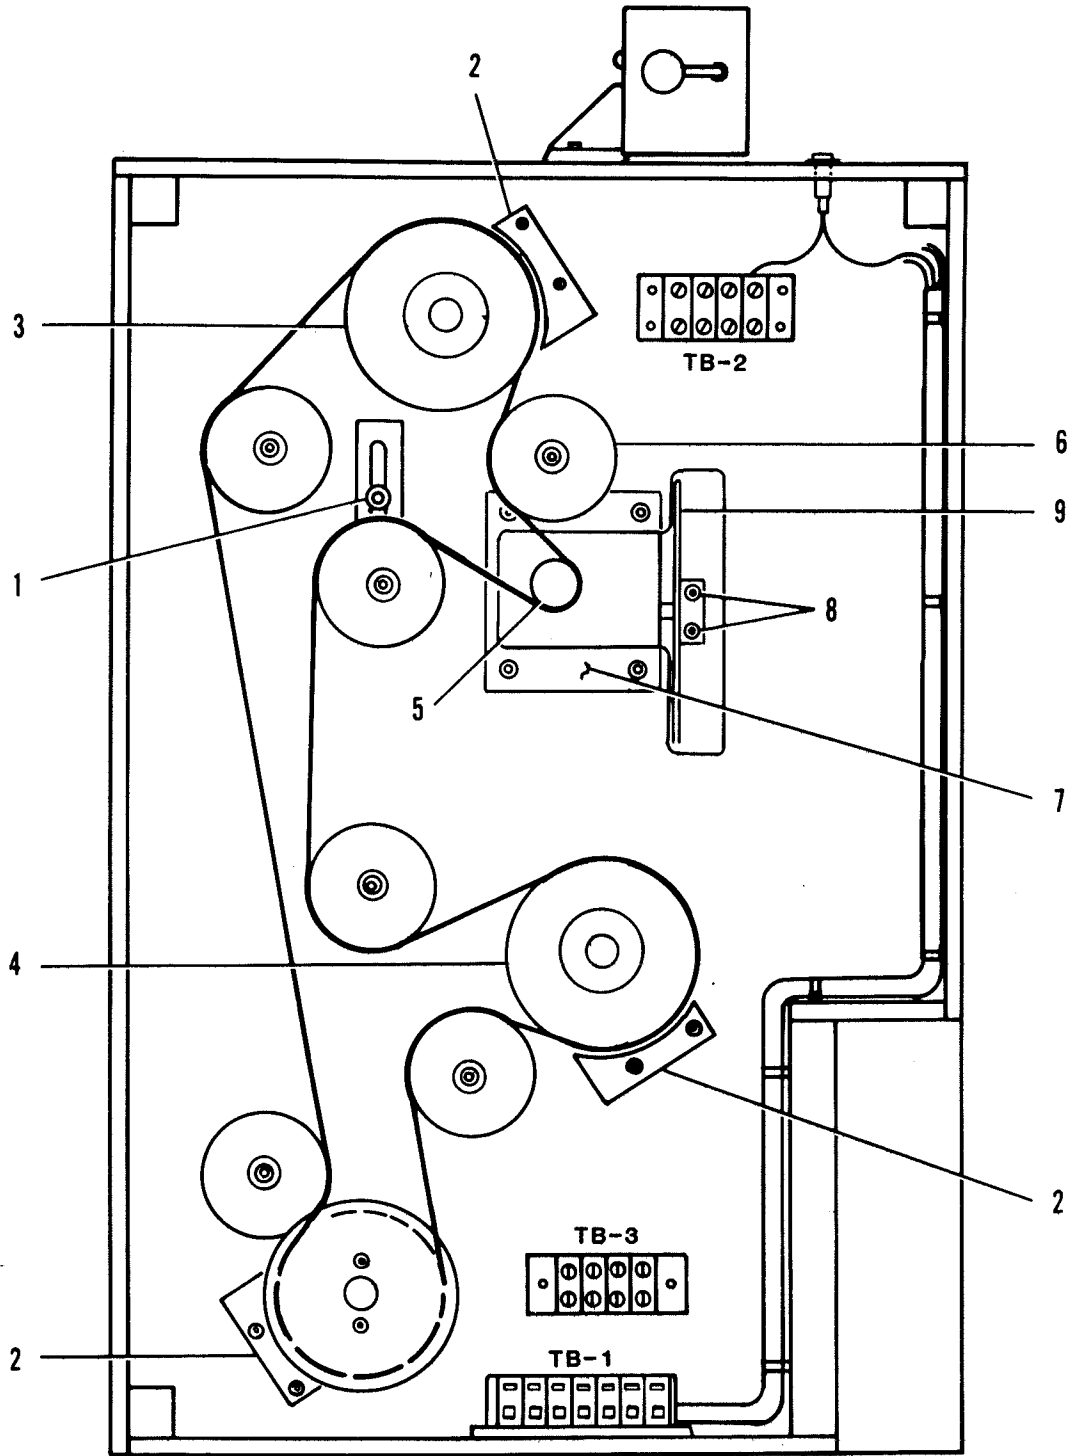

FIGURE 4-2. INNER TIMING BELT
1. Loosen outer timing belt idler pulley locking screw (1) and relieve tension on outer timing belt (2).
2. Remove bearing (3) by removing bearing retainer nut and washers.
3. Remove outer bearing retainer (4) by removing two allen head screws that secure outer bearing retainer to main frame.
4. Remove outer timing belt (2) from its associated pulleys and drive gears.
- 4-8. Inner Timing Belt. To remove the inner timing belt, refer to Figure 4-2 and proceed as follows:
2. Loosen inner timing belt idler pulley locking screw (1).
3. Remove three belt retainer guide blocks (2) by removing two allen head cap screws located at each constant speed sprocket drive pulley (upper, center, lower).
4. Remove inner timing belt (3) from its associated pulleys and drive gears.
3. Relieve tension on inner timing belt, then remove inner timing belt from shutter drive sprocket (5, Figure 4-2).
4. Remove allen head screw securing idler pulley (6, Figure 4-2) to main frame, then remove idler pulley.
5. Remove four allen head screws securing gear box assembly (7, Figure 4-2) to main frame, then remove shutter gear box assembly.
1. Loosen shutter clamp screws (8, Figure 4-2) just enough so that shutter can be rotated on its shaft. It should be snug, not free wheeling.
6. Rotate shutter (9, Figure 4-2) by hand until crosshairs are centered in aperture. Make certain that shutter is not hitting anything.
7. Tighten shutter clamp screws (8, Figure 4-2). Be sure not to allow shutter (9, Figure 4-2) to move on its shaft after centering crosshairs.
1. Refer to Figure 4-2 and loosen inner timing belt idler pulley locking screw (1).
2. Adjust inner timing belt idler pulley (2) until required tension is obtained.